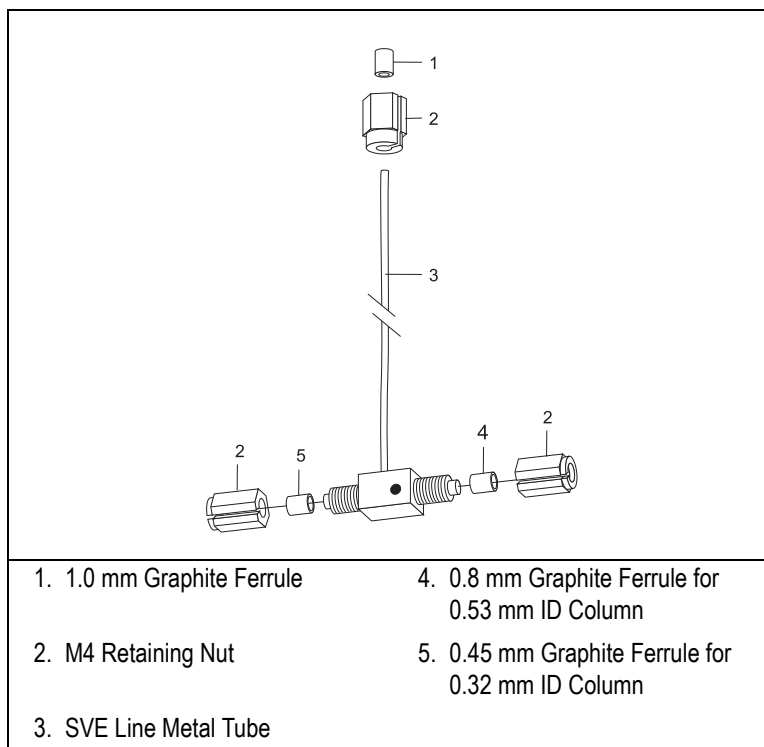

Figure 15-5. Tee Connection Assembly
- tee connector with M4 column retaining nuts and graphite ferrules, as shown in Figure 15-5